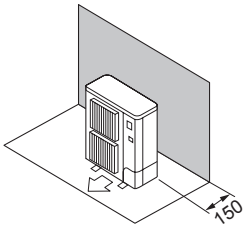

Fig. 2-3
- ① Obstacles at rear (Fig. 2-3)